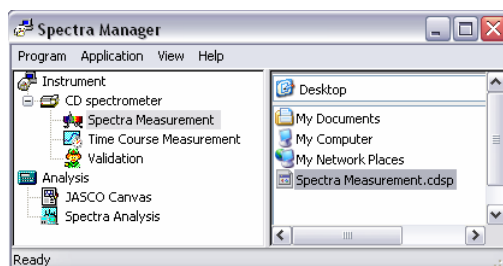

Figure. 2.7 Starting [Spectra measurement] program and reading parameters simultaneously
- (2) Search the directory and select the measurement parameter file (i.e. .cdsp format file) in the right side of the window. (See the right side of Fig. 2.7)